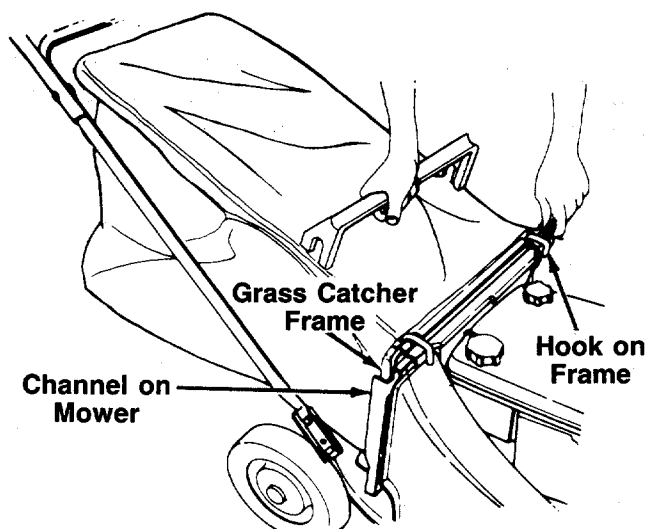

FIGURE 14.
1. Hold the chute door on the catcher panel open as shown in figure 14.
2. Slide the frame of the grass catcher down into the channels on each side of the mower. The hooks on the frame go over the panel on the discharge chute. See figure 14.